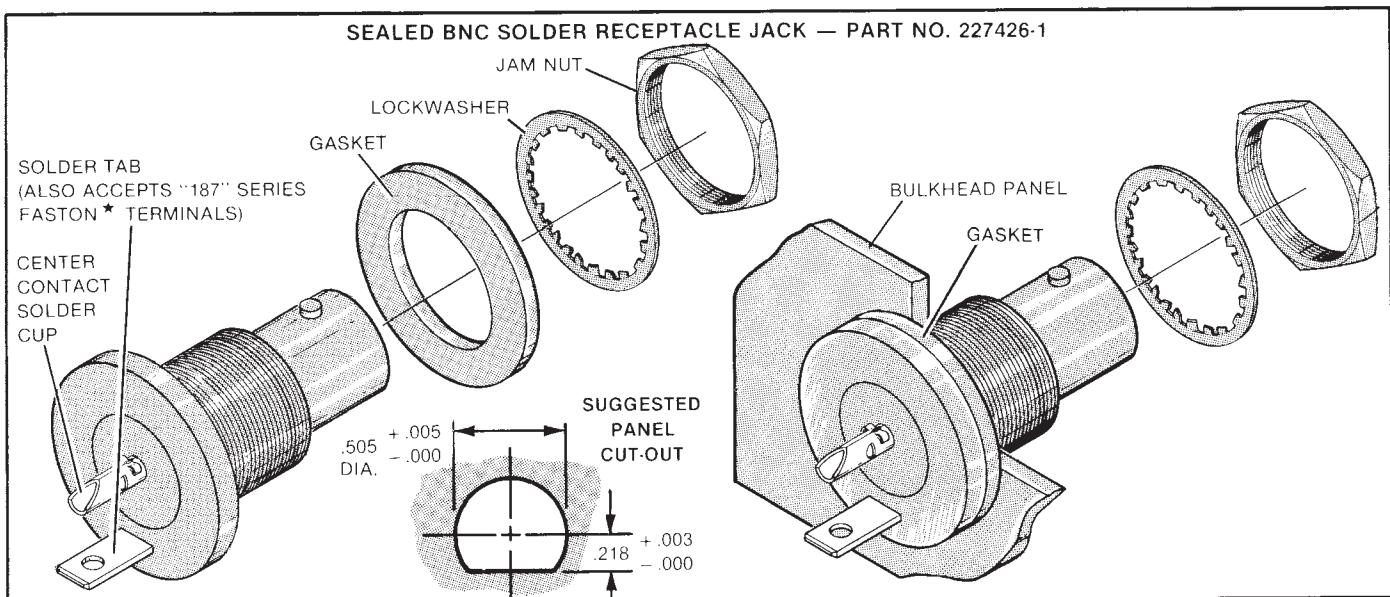

Figure 4
- (a) First determine mounting requirements; panel cutout dimensions are shown in Figure 4.